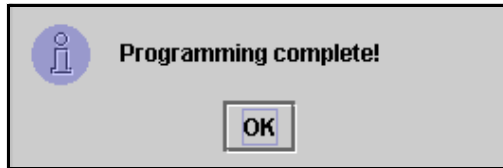

FIG. 86 Programming complete screen
6. If the meter is successfully programmed, you are notified that programming is complete, as shown in FIG. 86. Click **OK**.
If you do not see the **Programming complete!** message (see FIG. 86), do not continue to the next meter until you complete a programming cycle with the message appearing.
3. Do not program another meter until you get the **Programming complete!** message shown in FIG. 86. If you program a meter and it appears to be successfully programmed at the meter but you didn't get the programming complete message at the PC, Graco recommends you reprogram the meter. This ensures that you do not get two meters programmed with duplicate parameters, which will cause unpredictable system behavior.